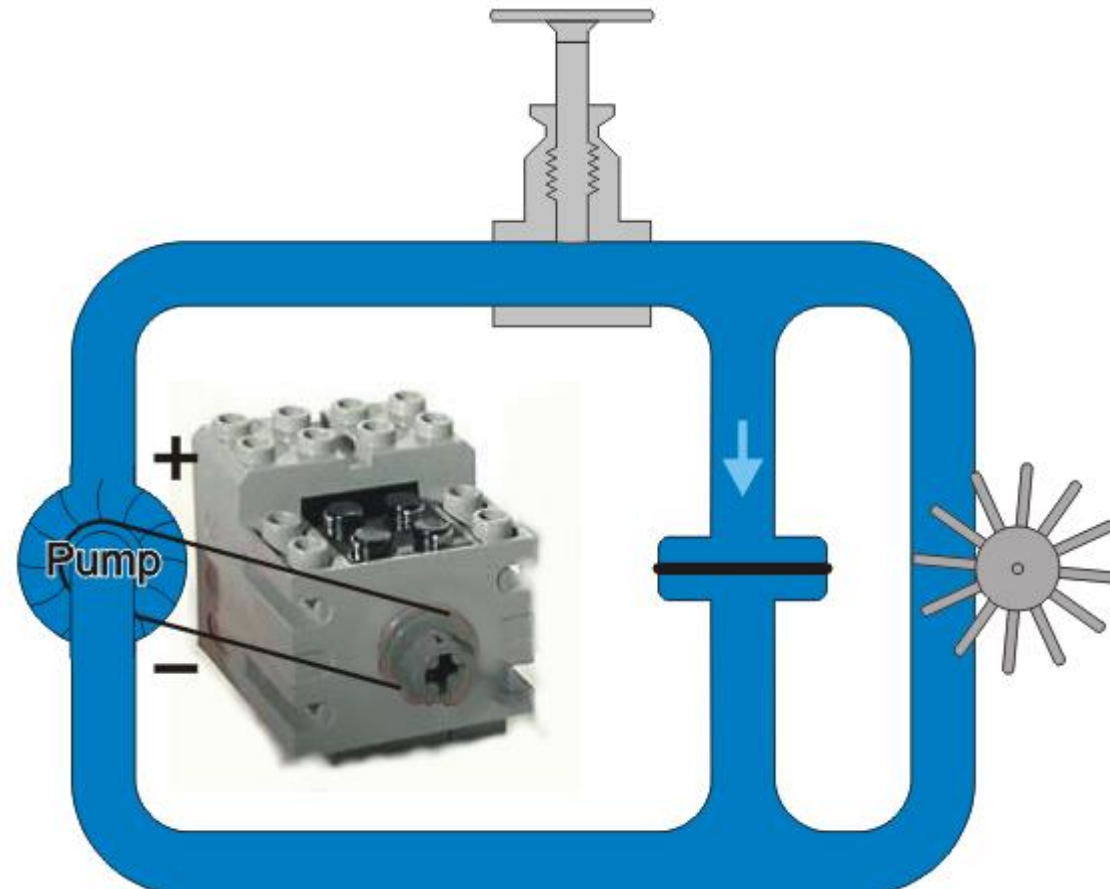

Fig 20: Flow begins through the pipe with the membrane.
- Consider now a membrane and water wheel in parallel. Initially, as shown in **Fig.20**, there is a lot of resistance to flow from the water wheel while there is no resistance at the membrane.